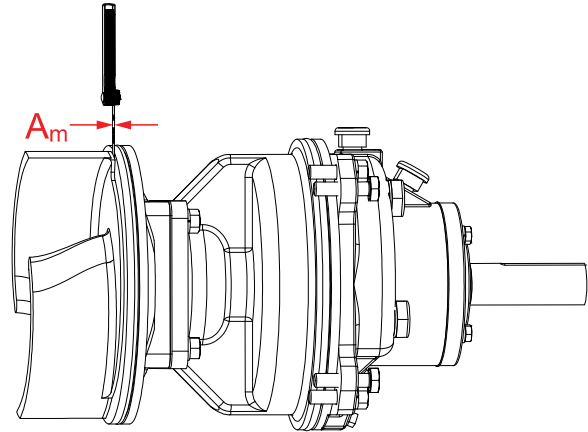

Figure 12-20: Dimension “ A_m ”
1. To set the seal plate (184) clearance, ensure the impeller (102) is fully threaded into position such that the seal is fully compressed and the full set of impeller shims (450) are installed. The impeller bolt (379) and washer (345) do not need to be installed for this process.
2. Measure the gap between the backside of the impeller (102) and seal plate (184). Record this measurement, this distance is “ A_m ” as shown in Figure 12-20.
3. Refer to Table 12-2 for recommended seal plate (184) impeller (102) clearance. Subtract distance “ A ” from distance measured “ A_m ” to determine the thickness of impeller shims (450) to remove. This impeller shim (450) removal amount will be denoted as “ A_r ”.